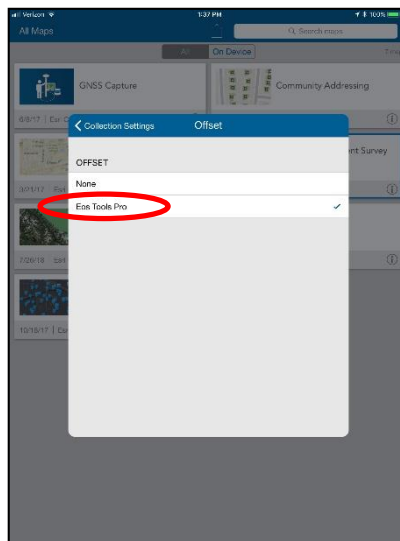

Figure 5
5. Start Collector and navigate to the **Settings/Collection Settings/Offset** screen and select the Eos Tools Pro app (Figure 5)